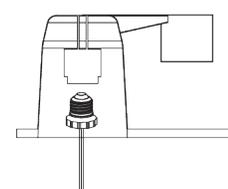

Fig. 14
3. Twist the E26 base adaptor to socket. (Fig. 14)